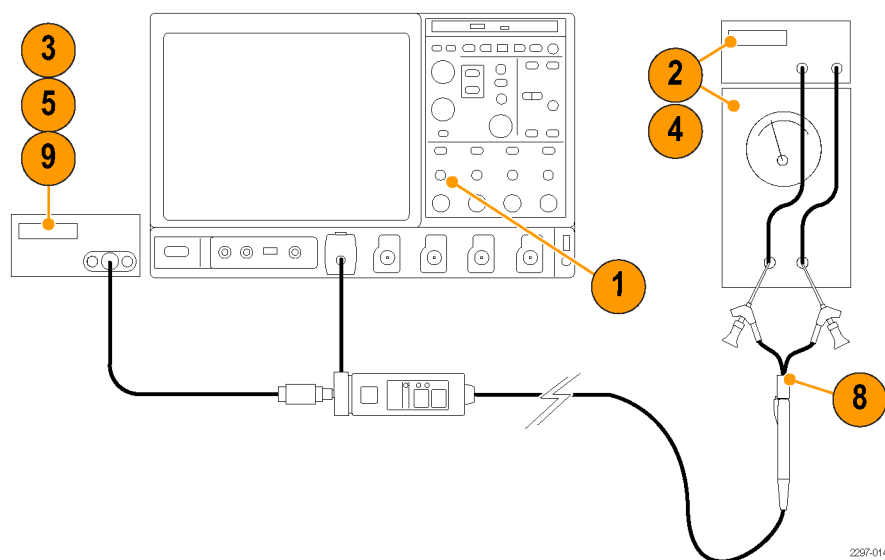

Figure 11: Differential signal range test
2. Set the input voltage on the DC source to 0 V, and verify that it is 0 V with the multimeter. (See Figure 11.)